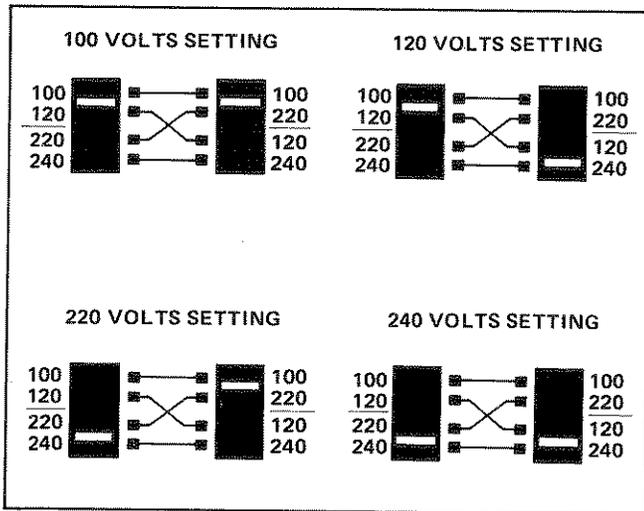

Figure 2-1. AC Voltage Selector Switch Positions
2. See Figure 2-1. Set rear-panel ac power level switches to select line voltage (100V, 120V, 220V, 240V) closest to voltage measured in step 1. Line voltage must be within + 5% or - 10% of voltage setting. If line voltage is not within limits, an autotransformer must be connected between ac source and HP 853A.